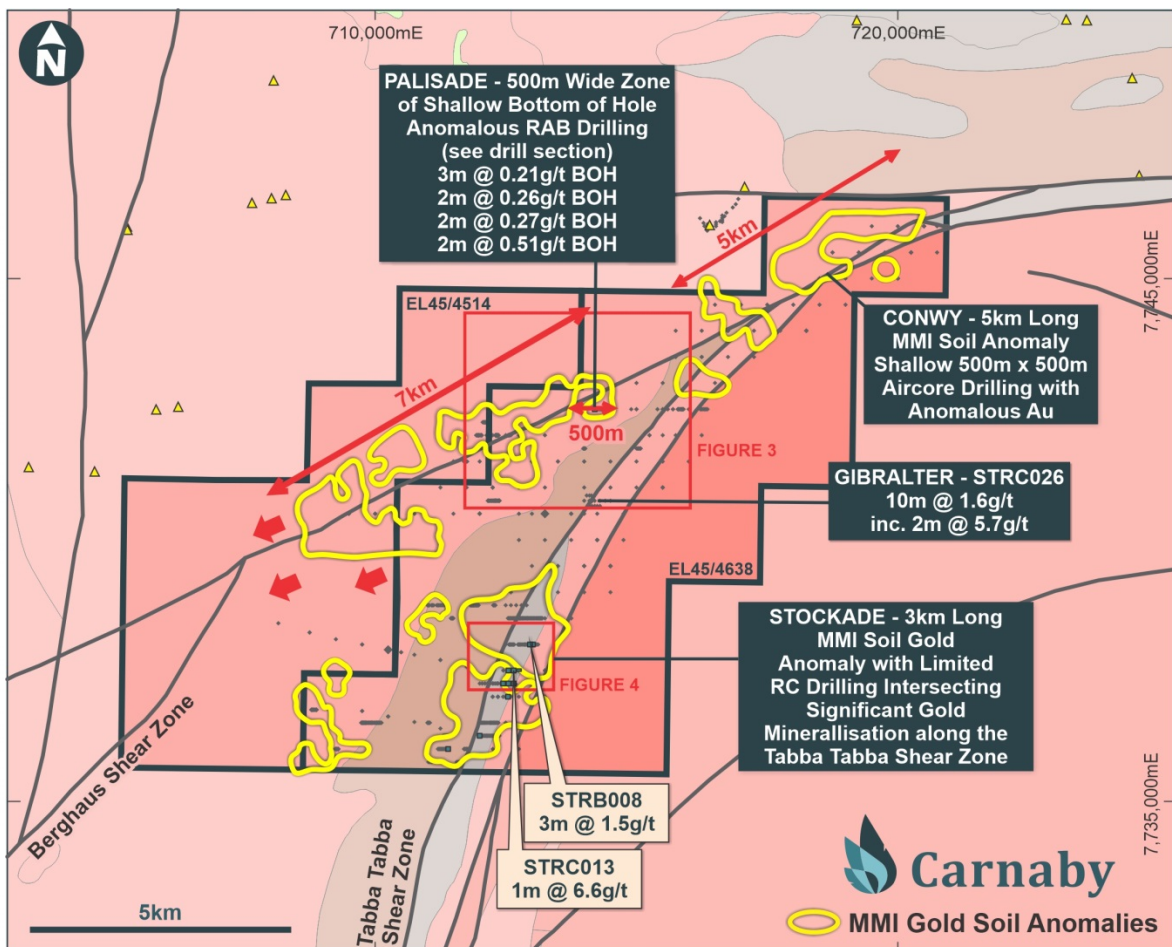

Figure 2: Strelley gold project showing location of MMI gold soil anomalies and significant historical drill results.
- **Palisade Prospect** – 7 km long MMI soil gold anomaly open to the southwest coincident with a **~300-500 m wide** gold mineralised bottom of hole RAB drilling anomaly (Figure 2, 3 & 4).
- **Gibraltar Prospect** – >2 km long gold anomaly along the Tabba Tabba Shear Zone with drill results up to **10 m @ 1.6 g/t gold** including **2 m @ 5.7 g/t gold** (Figure 2 & 4).
- **Stockade Prospect** – 3 km long MMI soil gold anomaly, sparsely drilled on 500 m spaced sections with results up to **1 m @ 6.6 g/t gold** and **3 m @ 1.5 g/t gold** (Figure 2 & 5).
- **Conwy Prospect** – 5 km long MMI soil gold anomaly at the intersection of the Tabba Tabba Shear Zone and Berghaus Shear Zone (Figure 2).
The Stockade target encompasses a 3 km long SSW trending MMI gold soil anomaly coincident with the Tappa Tappa Shear Zone (Figure 2).
The Conwy target encompasses a 5 km long MMI gold soil anomaly at the confluence of the Tabba Tabba and Berghaus shear zones. The target area is completely overlain by cover sequences approximately 15 m deep (Figure 2).
Historical soil sampling using Mobile Metal Ion (**MMI**) has been utilised at Strelley as a surface geochemical method as traditional soil sampling methods were considered to have been ineffective. MMI is a partial leach technology used in covered areas to detect subtle gold dispersion in the overlying cover. The MMI soil sampling identified several large corridors of gold anomalism at Palisade, Stockade and at Conwy coincident with the Tabba Tabba Shear Zone and a NE structure interpreted as the northern extension of the Berghaus Shear Zone (Figure 2).